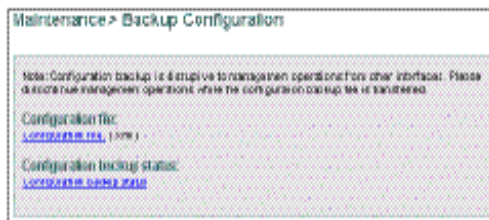

Figure 4-9 Backup Configuration View
1. Select *Backup Configuration* from the *Maintenance* menu (*Maintenance>Backup Configuration*). The *Backup Configuration View* appears (Figure 4-9).